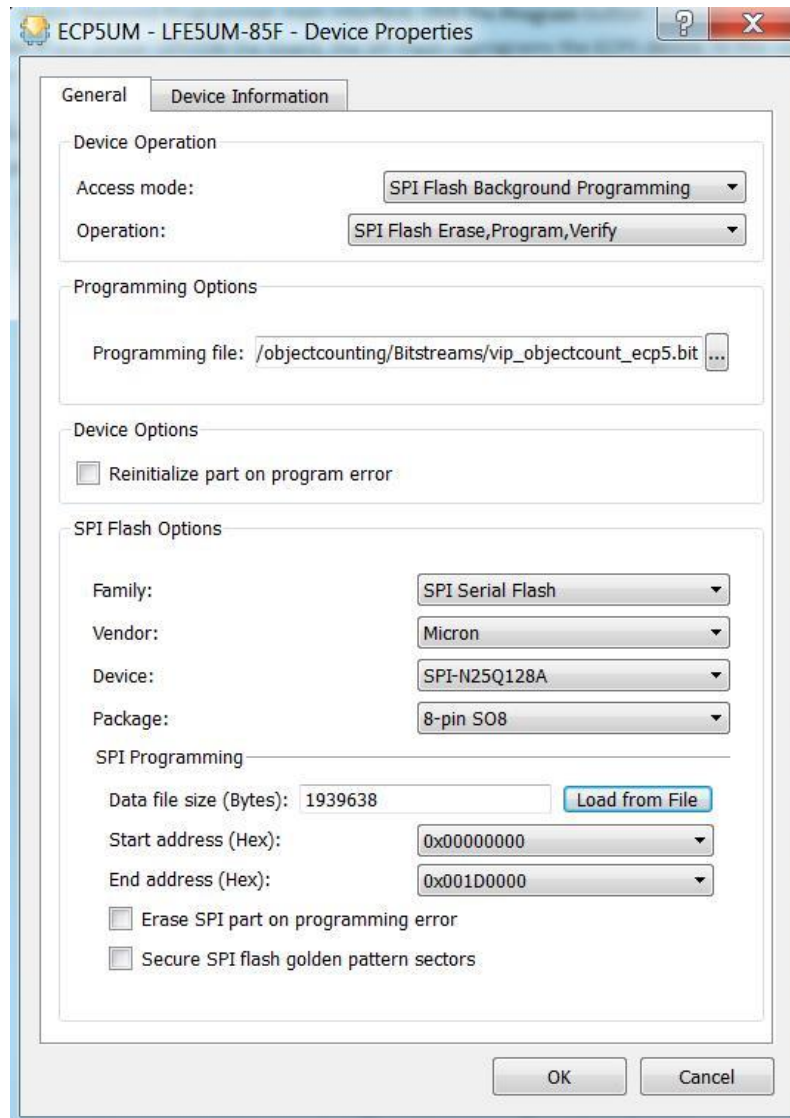

Figure 4.3. Selecting General Options
2. In the Diamond Programmer main interface, click the ECP5 row and select **Edit > Device Properties** to open the Device Properties dialog box as shown in Figure 4.3.